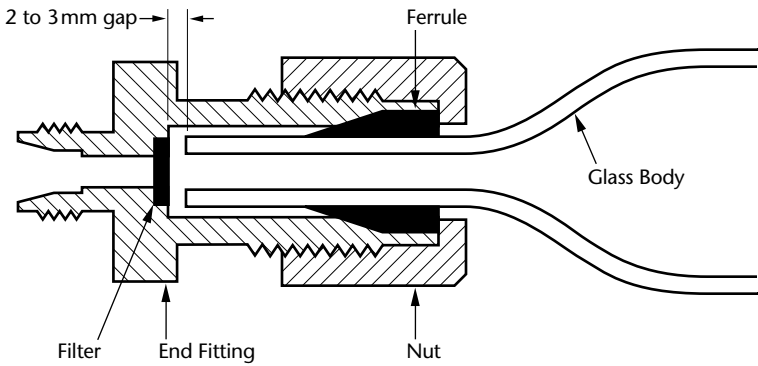

Figure 1 – End Fitting Assembly Models SG6190 and SG6191 Purifiers
7. Replace the end fitting over the end of the glass by seating the shoulder of the fitting on the glass and carefully moving the fitting about 2 to 3 millimeters away from the glass neck of the filter (see figure 1).